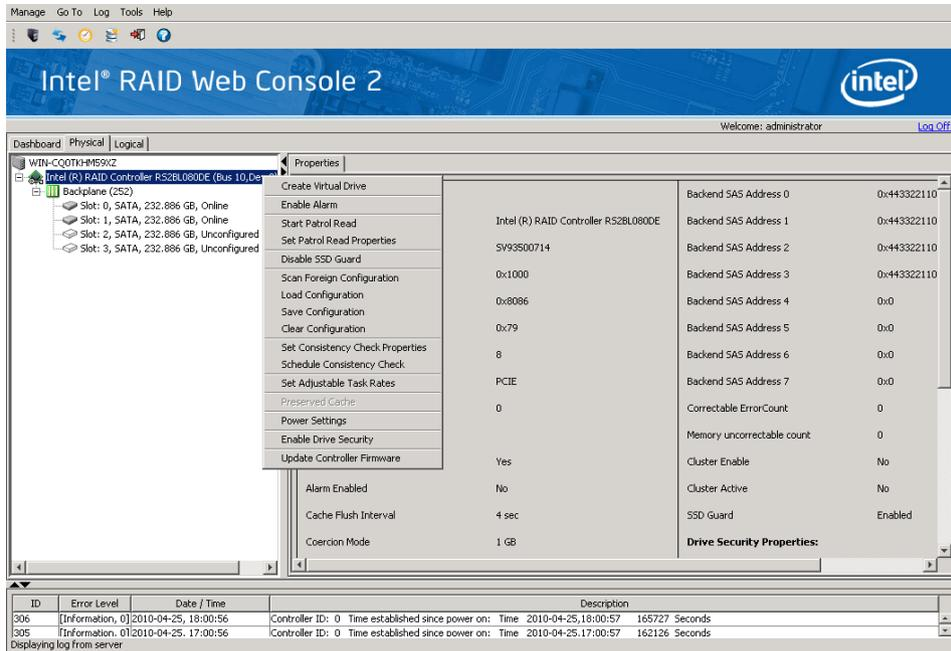

Figure 94. Virtual Drive Creation Menu
- Select the controller node and select Go To -> Controller -> Create Virtual Drive in the menu bar, as shown in Figure 94.